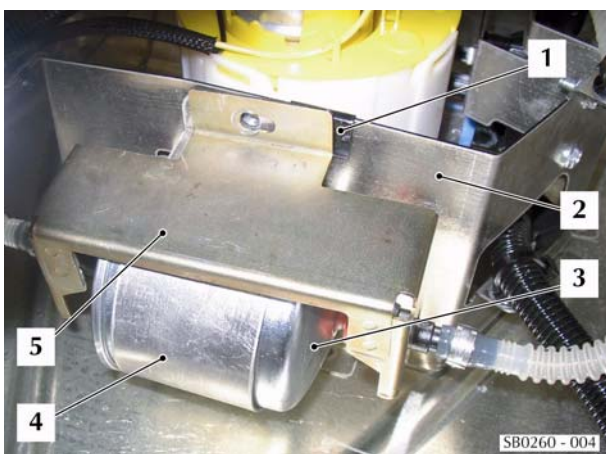

Figure 4
3. Assemble the inner attachment bracket (item 4) for the filter to the filter (item 3) (refer to Figure 4).